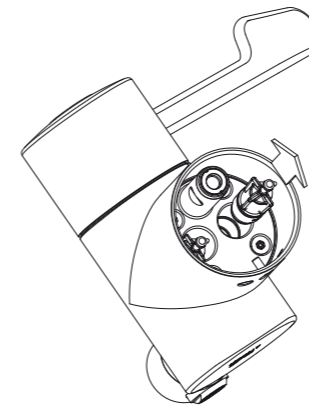
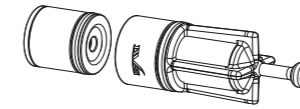

Fig 12
Fig 13
**NOTE:** For washbasins, washing under running water is assumed. The fitting of isolation valves is required as close as is practicable to the water supply inlets of the AquariTherm. Non-return valves and strainers are to be fitted internally- see fig.13.
The filter cartridges (Fig 13) can be removed from the body of the tap (Fig 12).